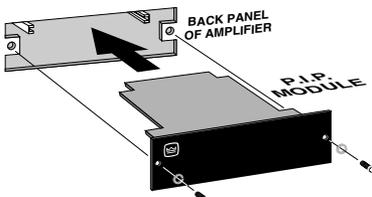

Fig. 2.1 Installation into a Standard *P.I.P.* Amplifier
3. *Standard P.I.P. Amplifiers:* Align the edges of the *P.I.P.-FMX* in the *P.I.P.* card rails and firmly push the unit in until it is seated against the mounting bracket (see Figure 2.1).